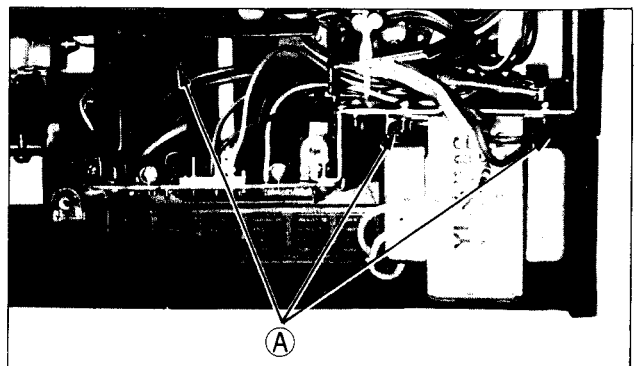

Fig. 5
After removing the color TV P.C. board, remove the entire power supply block while unfastening the three screws marked (A) in Fig. 5.